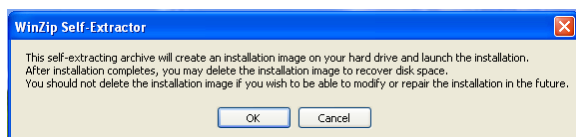

Figure 10. LabVIEW WinZip Self-Extractor
1. Double click on the **LabVIEW_Runtime_Engine.exe** file. When the dialog box in Figure 10 appears, click **OK** to continue.